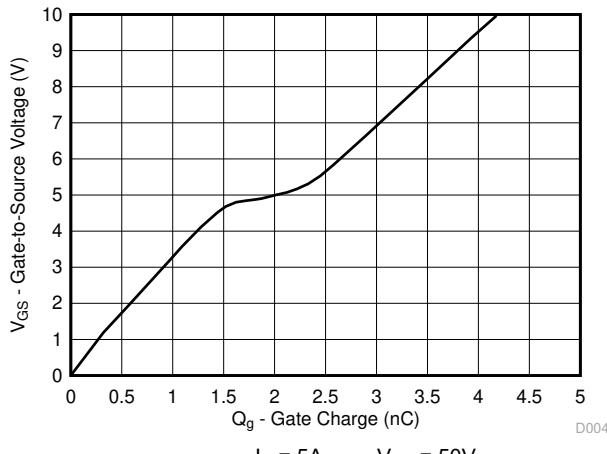

図 3-4. Gate Charge
• Changed test voltage $V_{DS}$ from 100V : to 50V in <a href="#">図 3-4</a> .....	<a href="#">5</a>